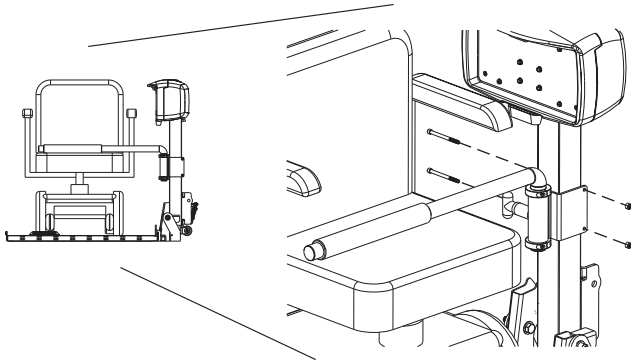

Figure 4-14
3. Place the power chair hold-down bar on the seat into the cushion. Once secured, attach to outer tube with supplied hardware. *See Figure 4-14 and page 21 for adjustments.*